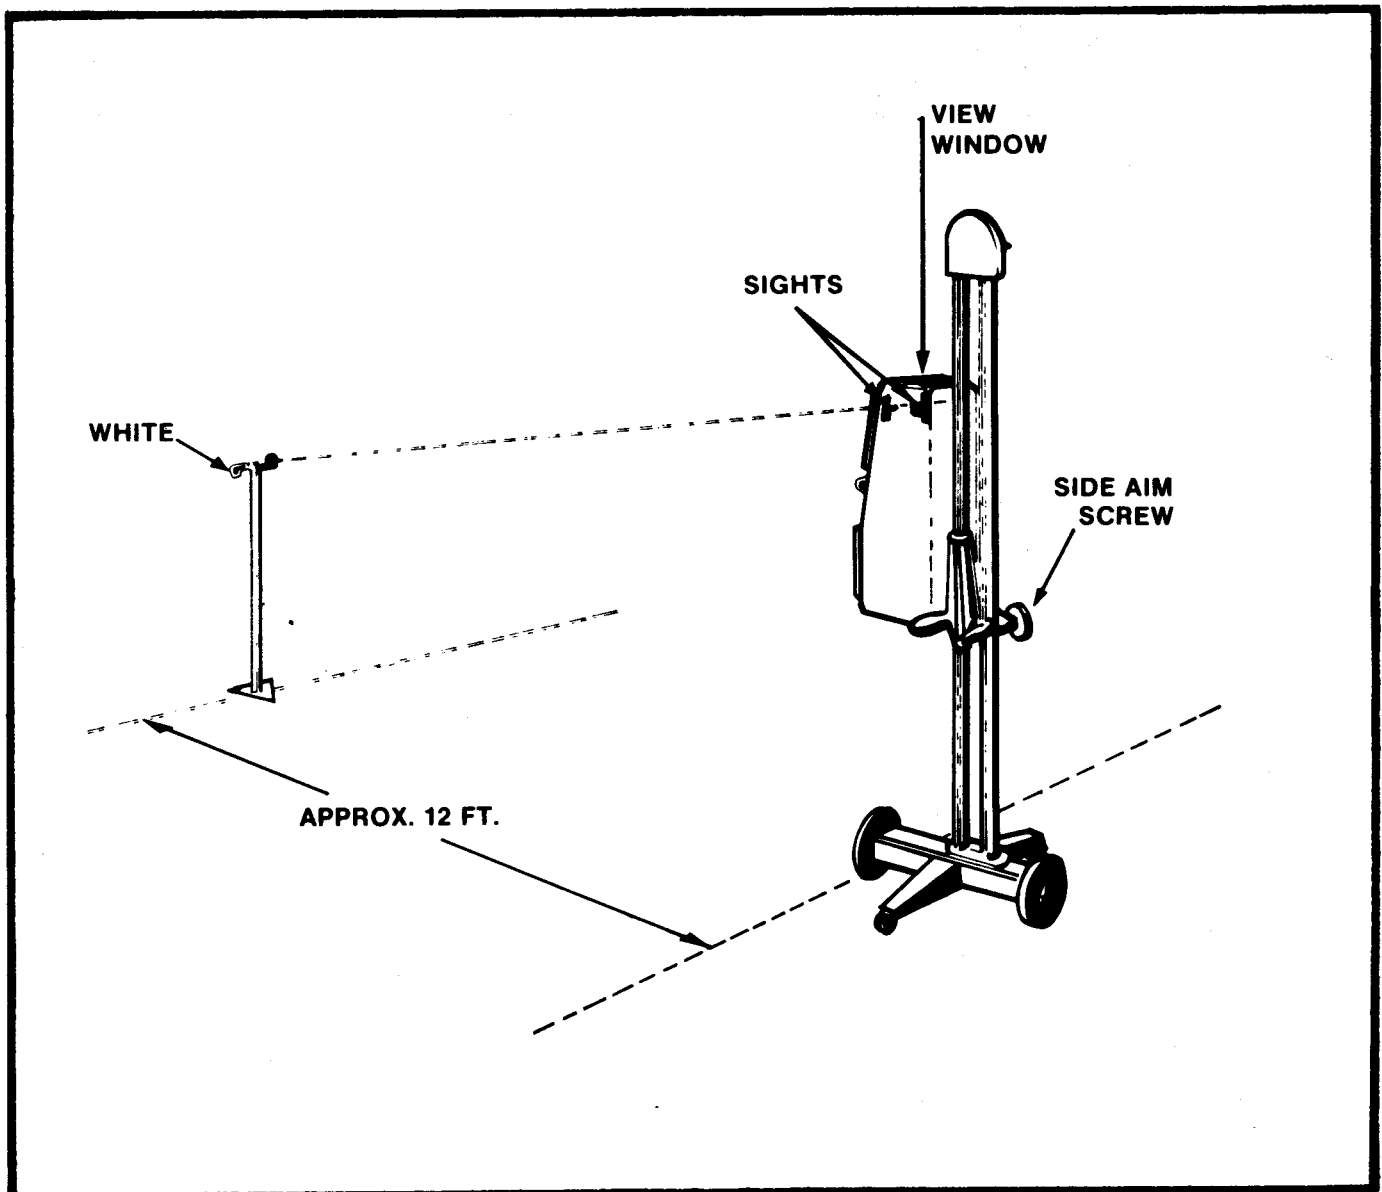

FIG. 10
4. Aligning the Test head parallel with the center line of the vehicle is a most important step in the Tester operation and is accomplished by means of the sights on the upper left side of the Test head. Look thru the narrow slot of the rear sight and roll the Tester sideways as needed to sight up the center line of the hood or line the sight up with the hood ornament and some other centerline indicator near the windshield or vehicle rear window. Turn the aiming screw on the Test Head support casting (Fig. 10) until the front sight is also in line with chosen sighting points on the vehicle. It may be necessary to roll the Tester sideways slightly while making this adjustment. After the Test head alignment with the vehicle centerline has been attained the aiming screw is not to be disturbed throughout checking or aiming the vehicle lighting equipment unless the portable tester has been thrown out of alignment as it is moved from one lamp to another.